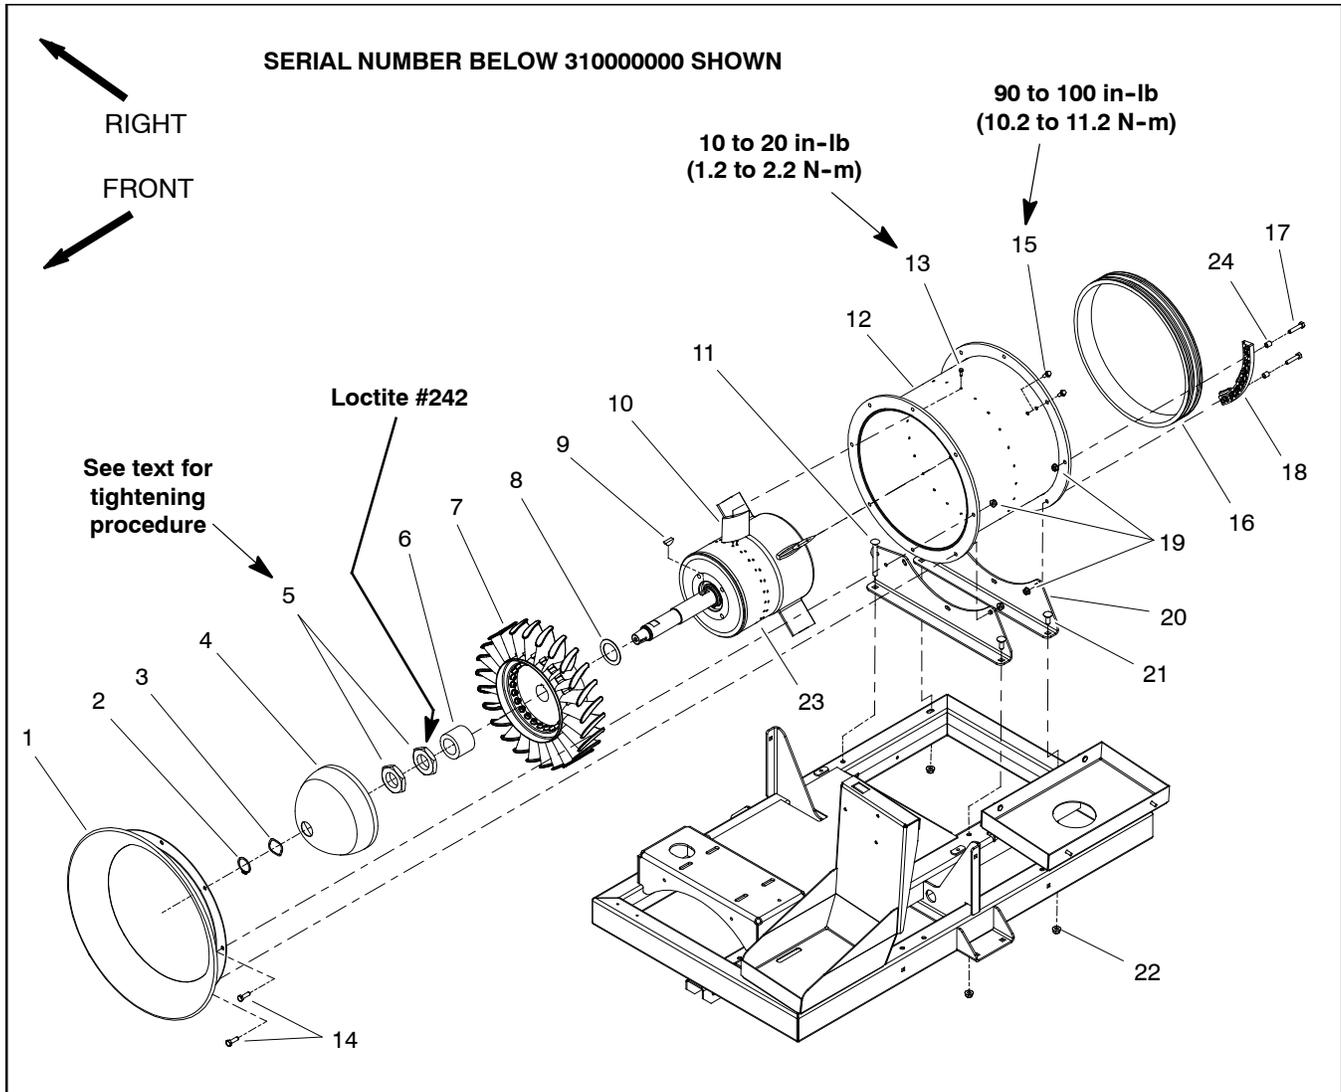
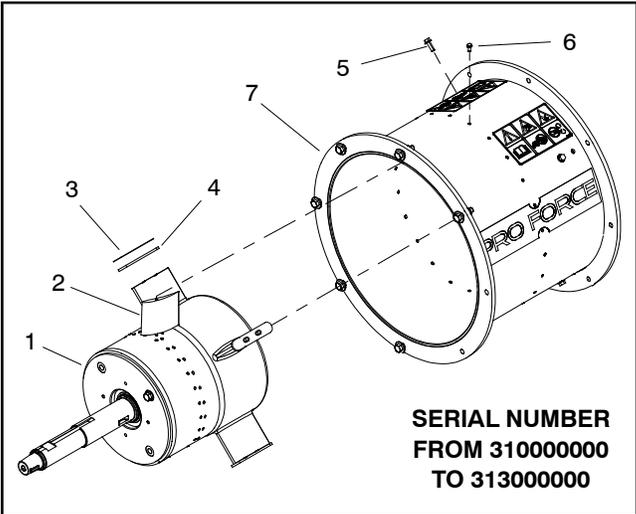
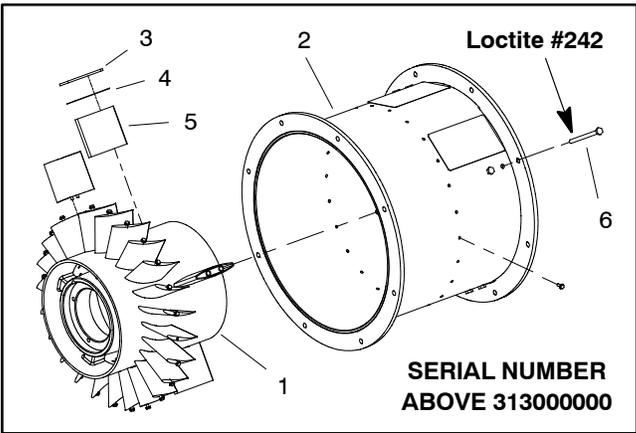
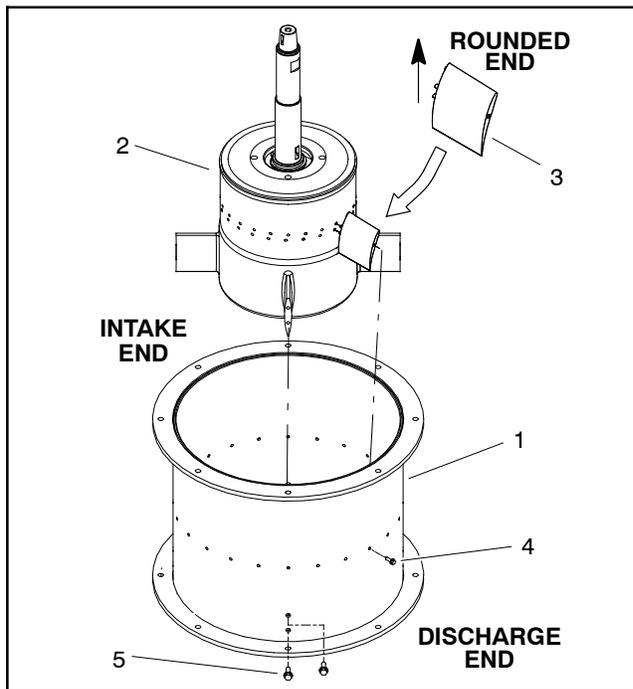

Figure 13
Figure 14
Figure 15
Figure 17
NOTE: ProForce Blowers have used three (3) methods of securing the inner and outer housings. On machines with serial number below 310000000 (Fig. 13), the inner housing is attached directly to the outer housing. On machines with serial number from 310000000 to 313000000, a fin spacer and possibly additional thin spacers exist between the inner housing flanges and the outer housing (Fig. 14). Machines with serial number above 313000000 use four (4) fin mounts with fin spacers and possibly additional thin spacers that are secured between inner housing and outer housing (Fig. 15). Refer to correct illustration when removing and installing inner and outer housings.
Removal (Fig. 13)
8. Lift fan housing assembly from machine and set on workbench with rotor shaft pointing straight up (Fig. 17).
13. If equipped (machines with serial numbers above 310000000), locate and retrieve fin mounts, fin spacers and thin spacers from between inner housing and outer housing (Fig. 14 or 15). Note location of these components for assembly purposes.
Installation (Fig. 13)
3. On machines with serial numbers above 310000000, install fin mounts, fin spacers and thin spacers (if equipped) between inner housing and outer housing (Fig. 14 or 15).
4. On machines with serial numbers above 313000000 (Fig. 15), apply Loctite #242 (or equivalent) to threads of screws used to secure inner and outer housings.
5. Make sure that holes in inner housing flanges align with outer housing holes. Install and finger tighten eight (8) screws (item 15) into threads of inner housing flanges. Do not fully tighten screws at this time.
A. Position a vane between inner and outer housing. Make sure that rounded end of vane is orientated toward rotor shaft (Fig. 17).
C. Install and finger tighten flange head screw (item 12) into threads of vane. Do not fully tighten screw at this time.
D. Repeat process for all twenty-four (24) vanes.